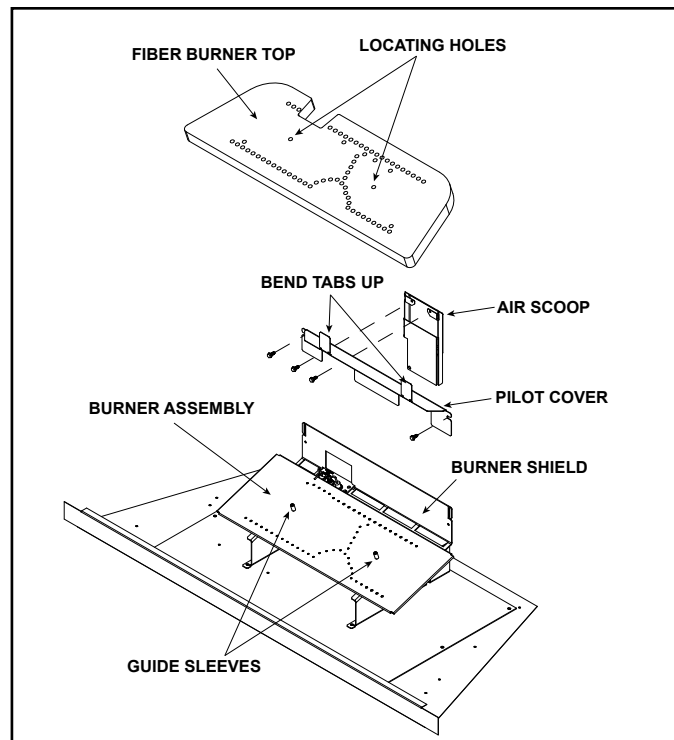

Figure 14.2
1. Bend the two tabs upward as shown in Figure 14.2.